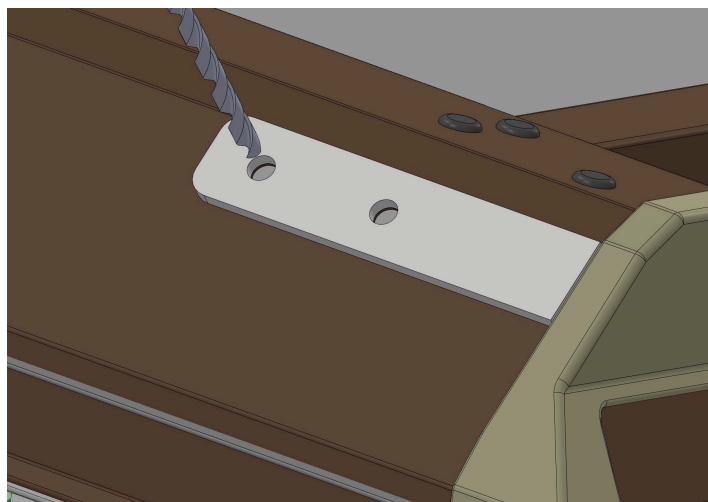
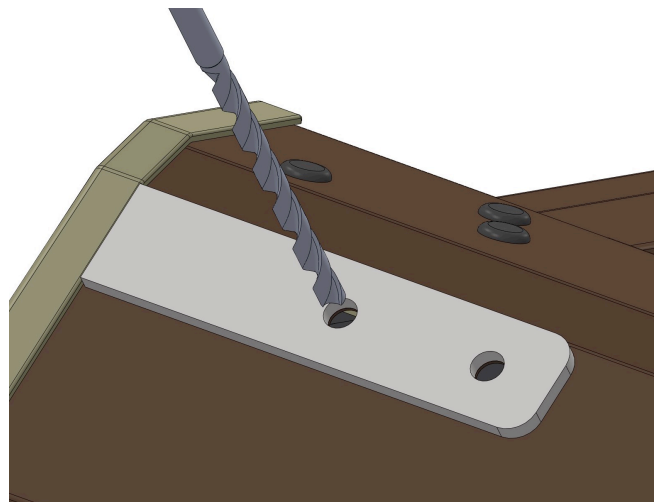

Fig.2
Fig. 3
- 2) Customize a template [h] to the edge of the upper (transverse) sheet of the window cladding (Fig.2). Then drill 2 holes with a  $\varnothing 6$  drill bit. Turn the template over and repeat in the opposite corner (Fig.3)